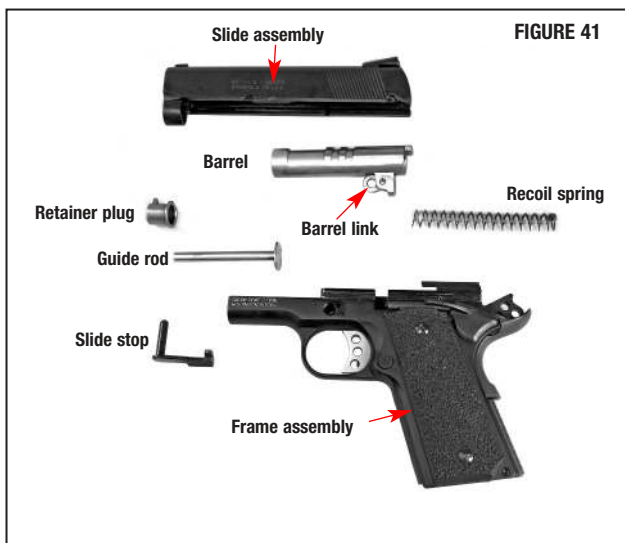

FIGURE 41
- Shown here (FIGURE 41) are the components of a sub compact SW1911 upon disassembly. This model does not make use of a barrel bushing.